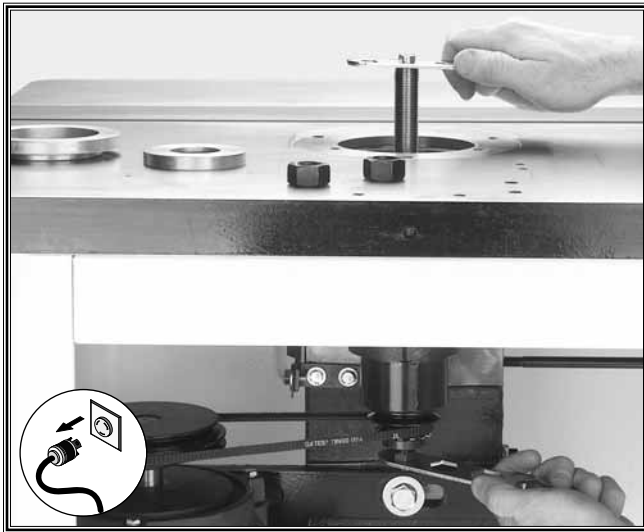

Figure 21. Tightening the drawbar nut onto the end of the drawbar.
- **For shaper spindles:** Place the spindle wrench on the top end of the spindle. Using a 15mm open-end wrench, tighten the drawbar nut while holding the spindle wrench secure as shown in Figure 21. DO NOT over-tighten the drawbar nut.